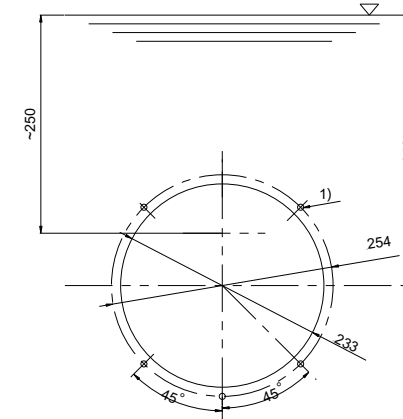

Figure 1
a) Use 4 screws(M6\*20) to fix the counter current jet plate to the pool wall hole. ( Figure 1)